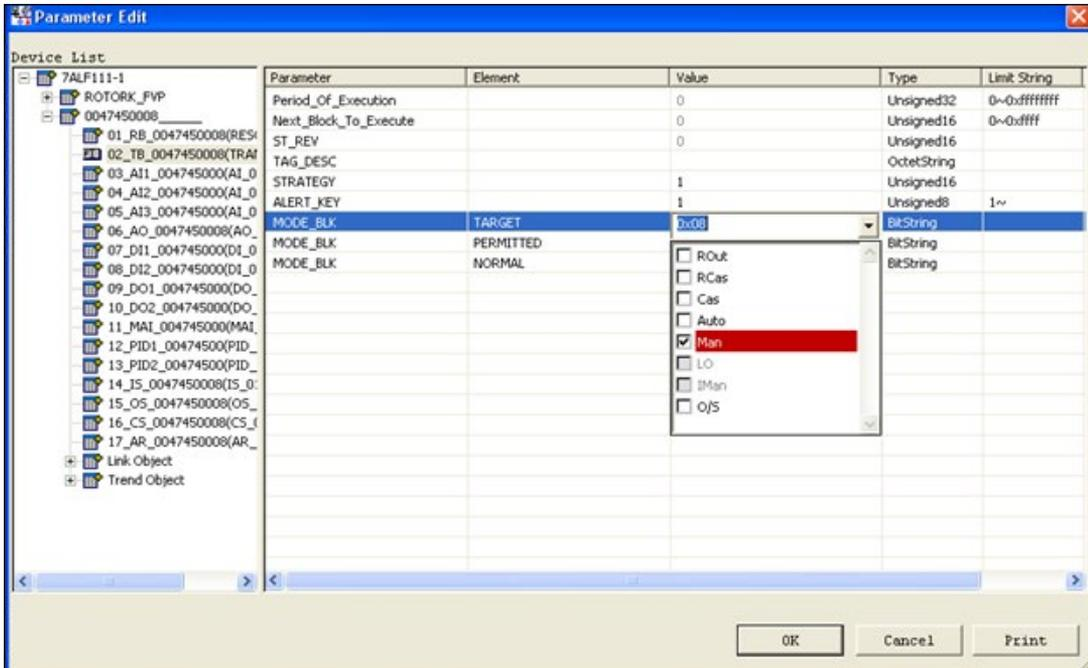

Figure 80 - Parameter Value Modification
1. Click on the selected parameter value to allow modification of the parameter value (Figure 80).